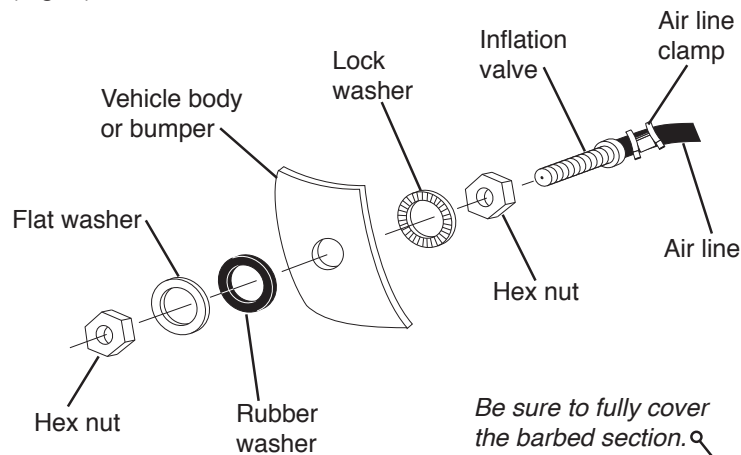

*Fig. 6*
- Push the air line onto the stem, covering all the barbs (Fig. 6). With the pliers, slide the air line clamp upward until it fully covers the barbed section.
5. Push the air line onto the stem, covering all the barbed section (see Fig. 6). With pliers slide the air line clamp forward until it fully covers barbed section.